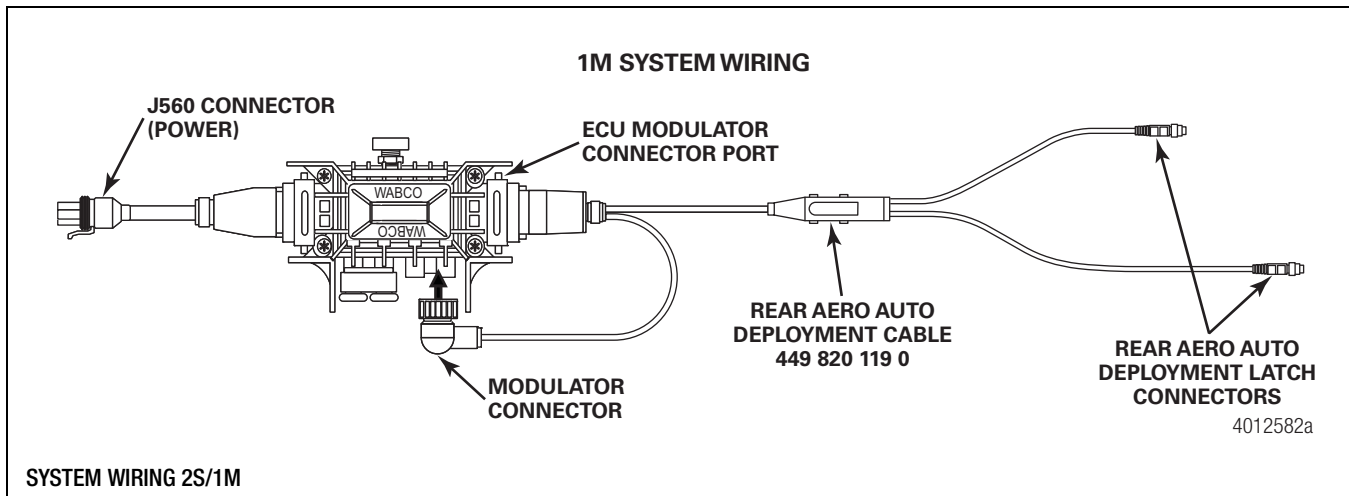
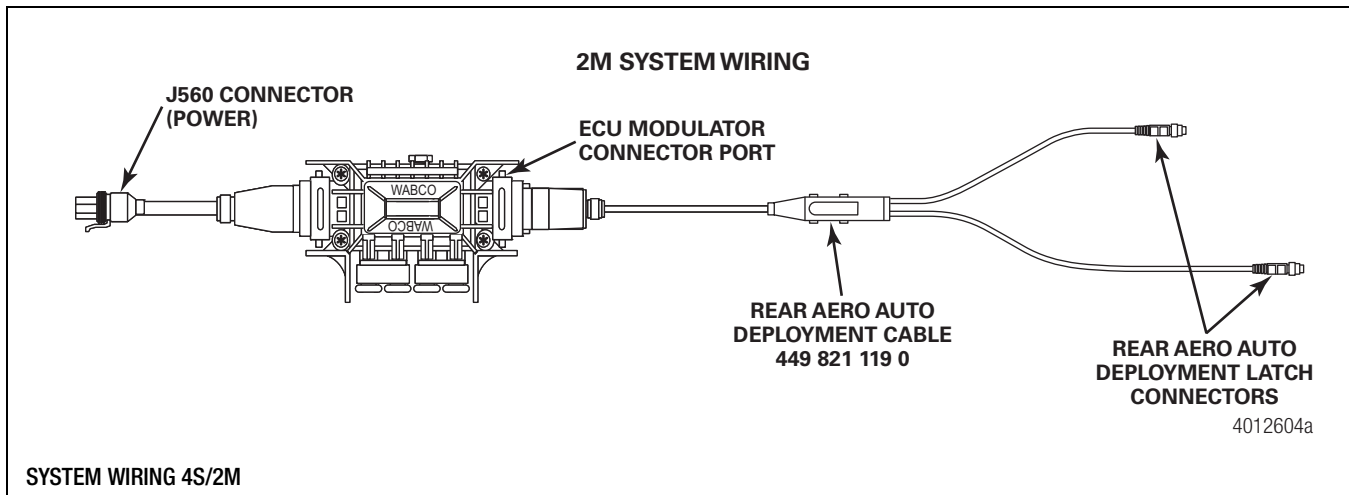

Figure 1
Figure 2
4. Connect the Rear Aero Auto Deployment cable, part number 449 820 119 0 (1M) or 449 821 119 0 (2M), into the ECU's modulator connector port and secure it with the locking tab. Ensure there is adequate clearance for deployed Rear Aero Auto Deployment panels, if installed. Figure 1 and Figure 2.
5. For 2S/1M installations only: Remove the shipping cap from the modulator connector and plug it into the single modulator valve. Ensure that the locking collar on the modulator connector is securely locked into place within the mating connector on the modulator valve. Figure 1.